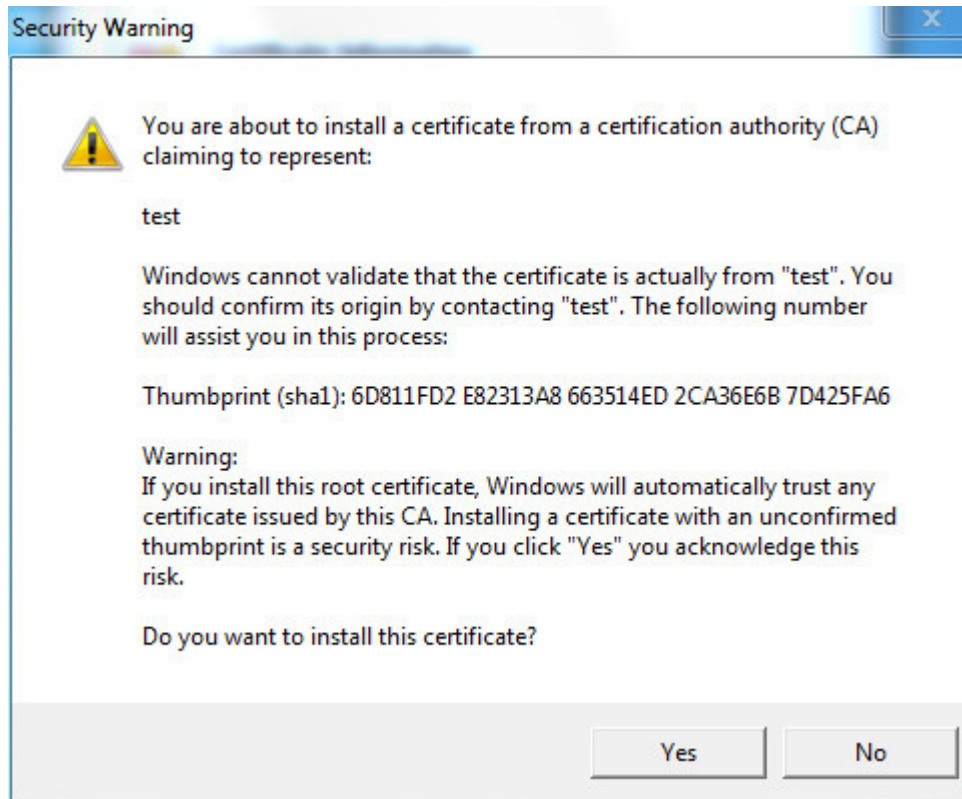

Figure 5-59
10. Click "Finish", and it will pop out the dialog box of "Security Warning", which is shown in Figure 5-59.